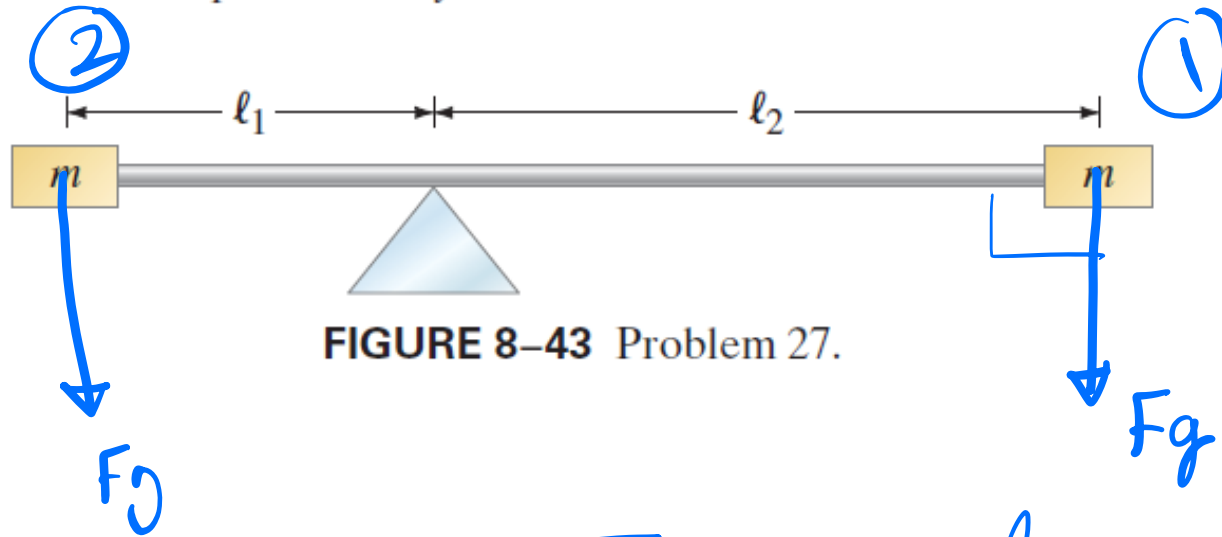

FIGURE 8-43 Problem 27.
27. (II) Two blocks, each of mass  $m$ , are attached to the ends of a massless rod which pivots as shown in Fig. 8-43. Initially the rod is held in the horizontal position and then released. Calculate the magnitude and direction of the net torque on this system when it is first released.